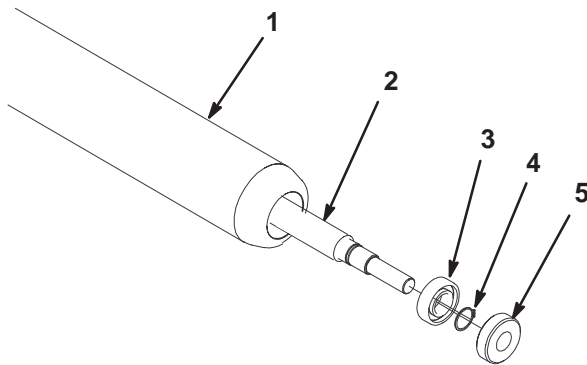

Figure 8
1. Remove snap ring on each end of roller (Fig. 8).